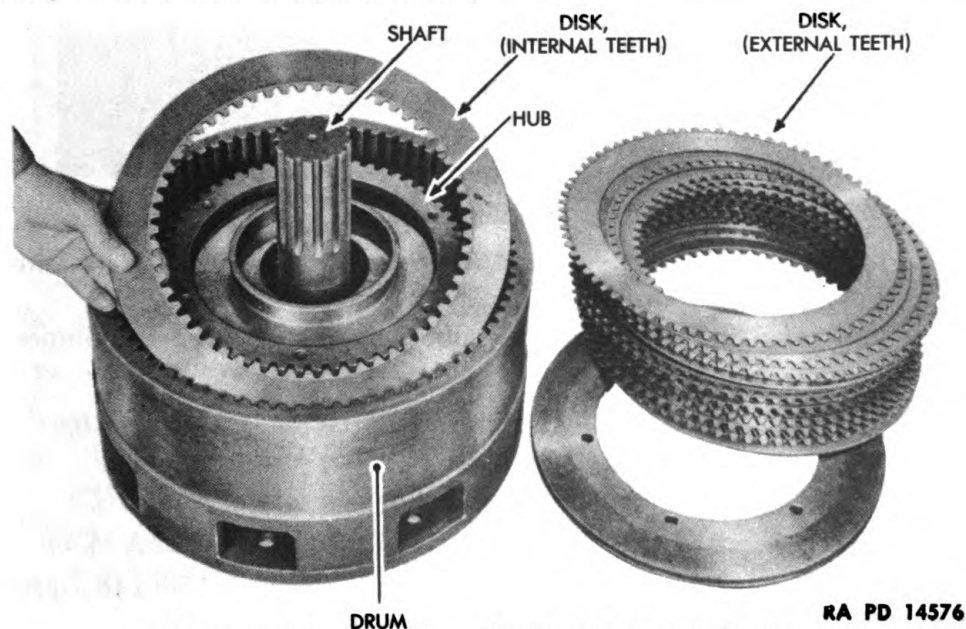

Figure 107 - Steering Clutch Disks Installation
(4) **INSTALL DISKS (fig. 107).**